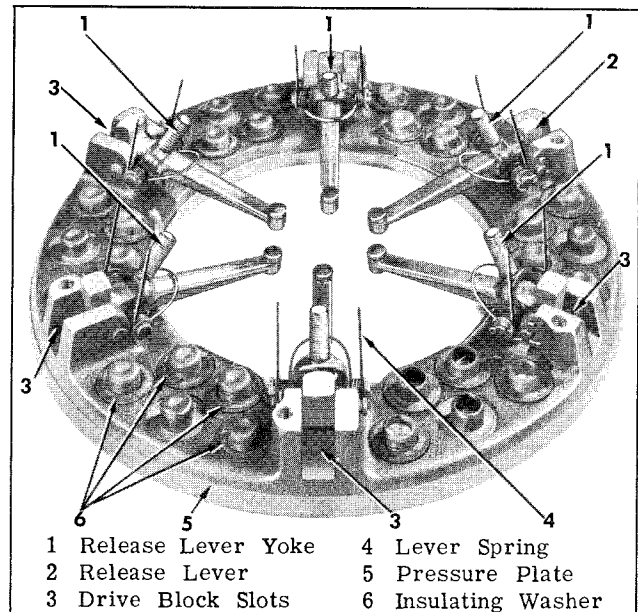
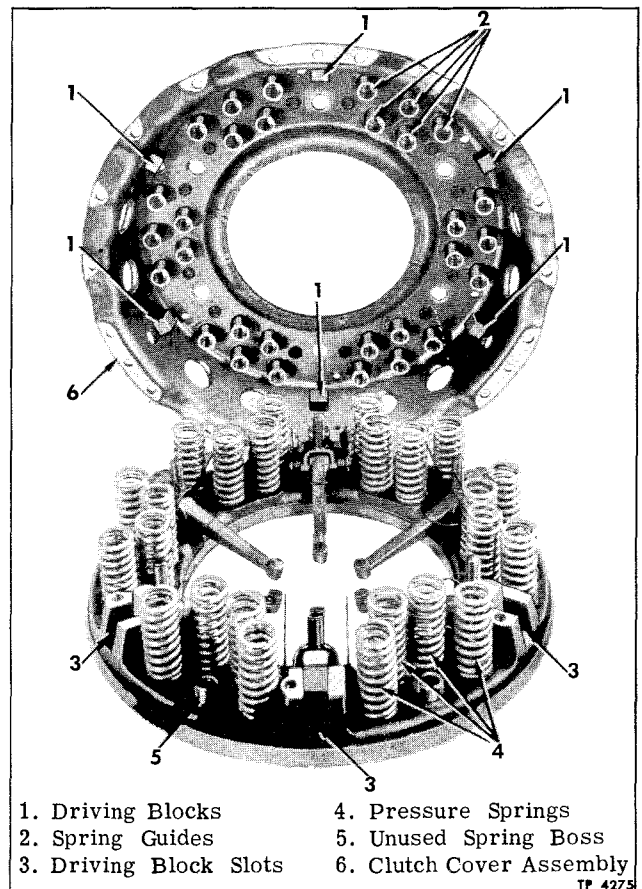

Figure 10—Pressure Plate and Release Levers
Figure 11—Cover Assembly Removed, Showing Spring Arrangement on Pressure Plate
Either the clutch pressure plate (3) or flywheel clutch plate (42), or both, if scored, or checked, can be refaced to produce a flat smooth surface. Before beginning resurfacing operation, measure thickness of parts. This is necessary to determine if parts have been resurfaced previously. Measure thickness of clutch pressure plate from front face to finished face of pressure spring seat. Be sure insulating washers (6, fig. 10) have been removed.
2. Place pressure plate and levers assembly (fig. 10) face downward on bench. If the pressure plate or flywheel plate has been resurfaced, place 1/32 inch shims between insulating washers (28) and spring bosses on pressure plate. Use one shim for each 1/32 inch of material removed during resurfacing operations. Refer to figure 11 for proper position of springs on pressure plate.